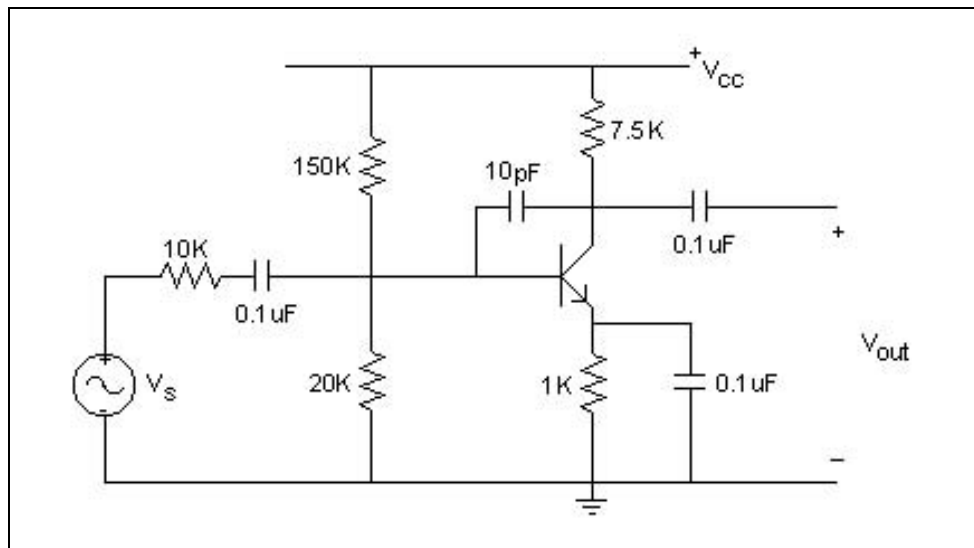

Figure 4.9: Circuit for demonstrating Miller effect
1. Construct the circuit in Fig.4.9, take $V_{CC} = 15V$.
2. The following questions refer to the circuit in Fig.4.9.